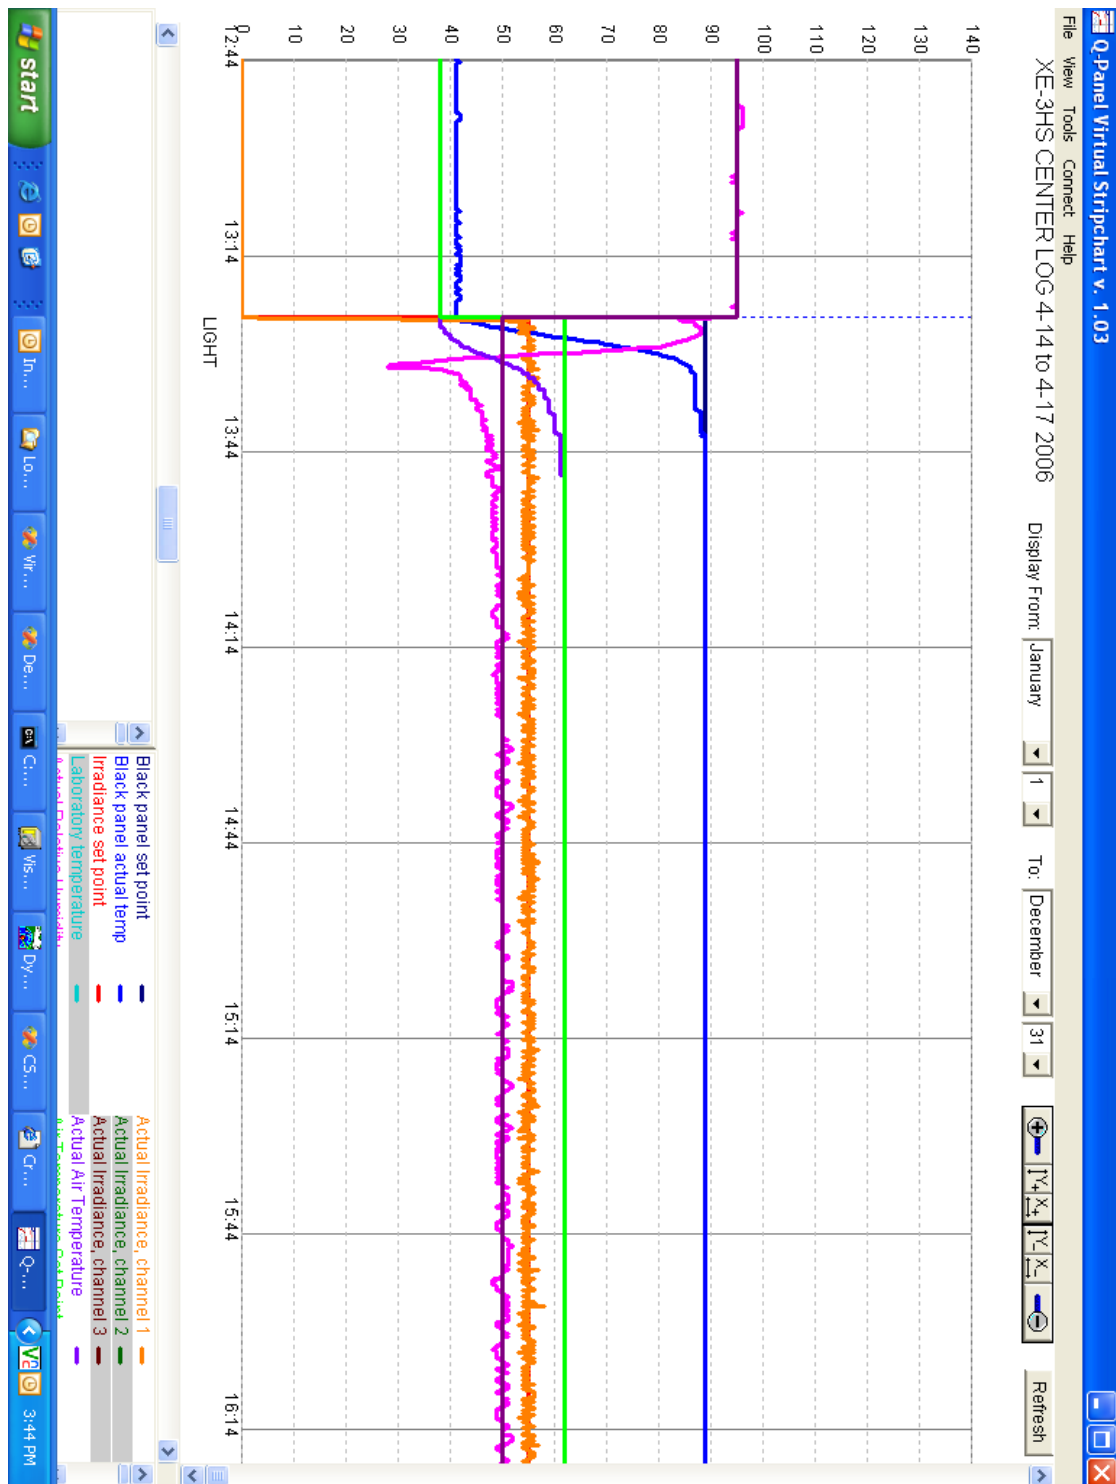
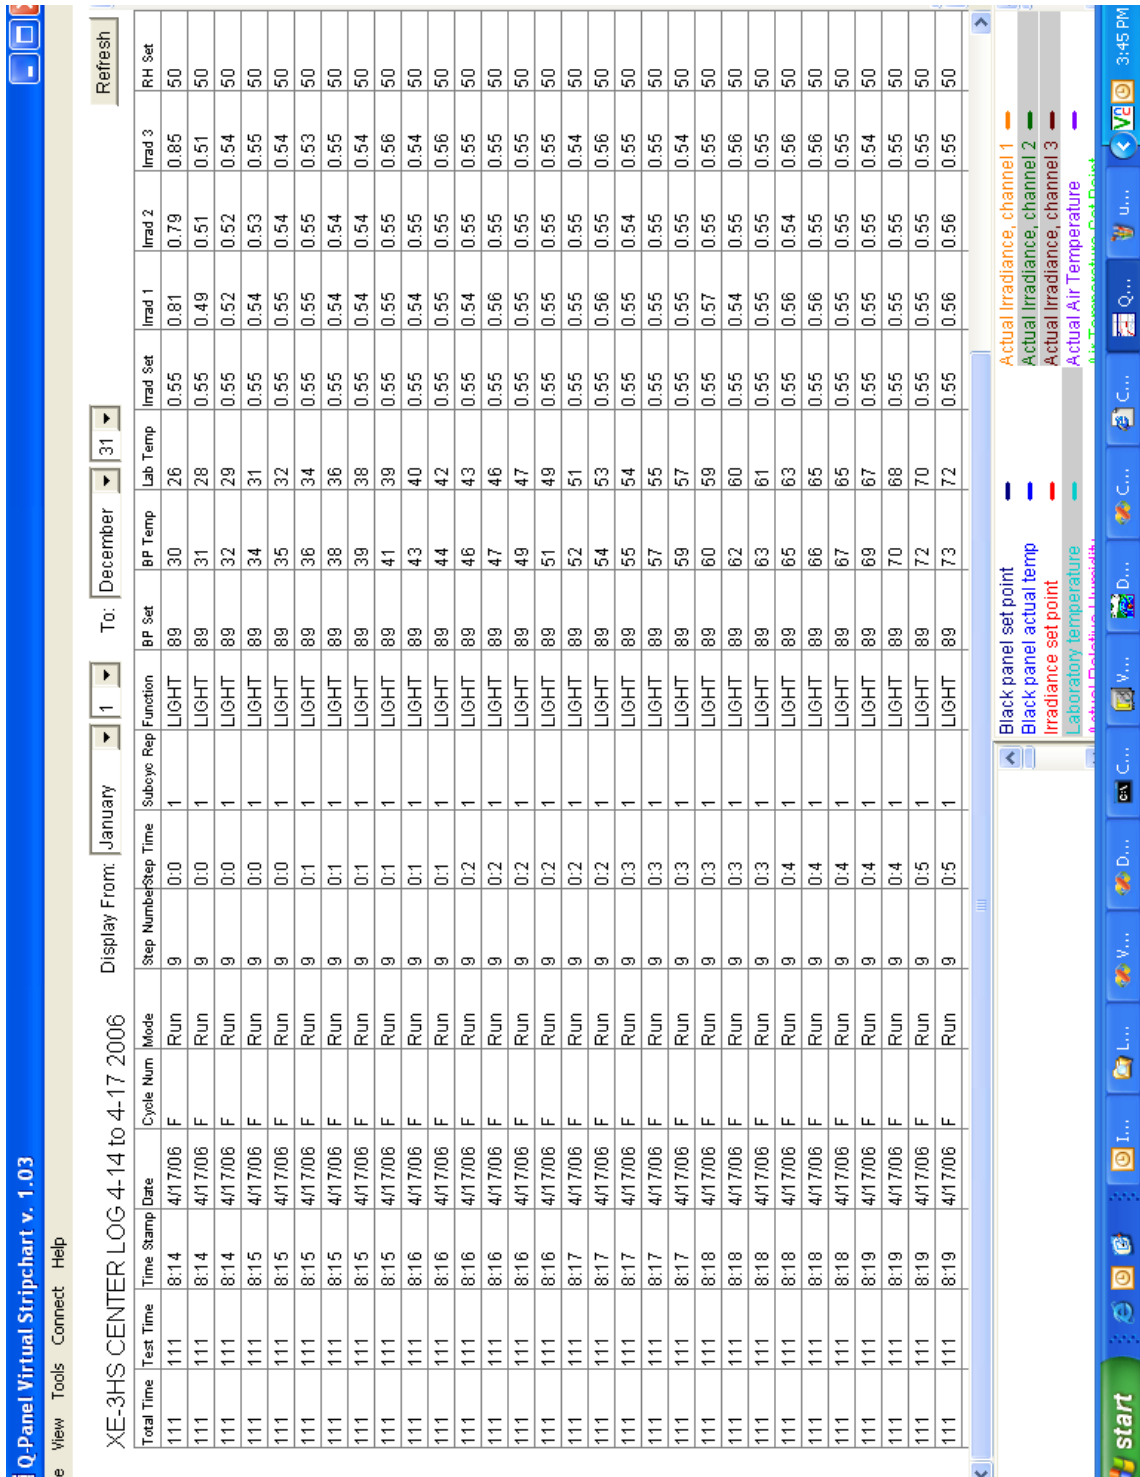

Figure 13.3h: Example stripchart view of Q-SUN operational data.
Figure 13.3i: Example table view of Q-SUN operational data.
- The exported files (Figure 13.3g) can be uploaded to the Q-Portal Asset Center where customers can view basic operational data (Figure 13.3h and Figure 13.3i) and Q-Lab personnel can view extended operational data.